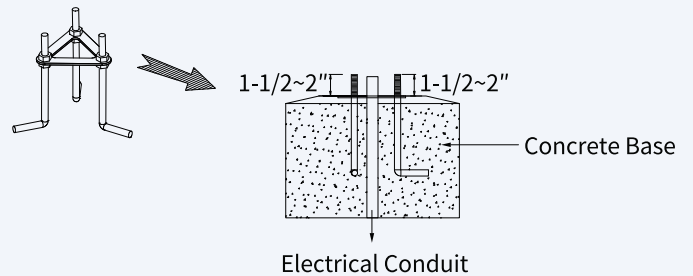

Fig 2
3. Install 3 anchor bolts into concrete as per attached **Fig. 2**, having at least 1-1/2~2" protruding from concrete with threads free and clear of debris and dirt (Electrical conduit are reserved in the concrete center).